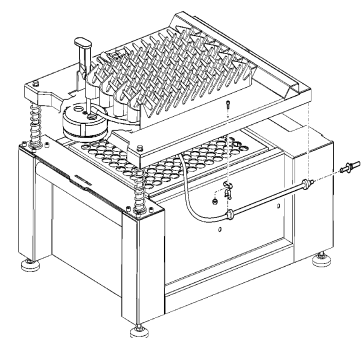

Figure 4.2 Delivery tube
- Attach the tube with cleaning stainless steel milk tube holder at the correct point on the side of the Shuttle sampling device (figure 4.2).